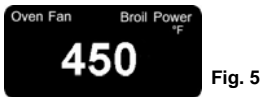

Fig. 5
2. Press the "Oven" button three (3) times to select the (Convection) Fan Broil" feature. The default temperature will be displayed on the display window. (Fig. 5)